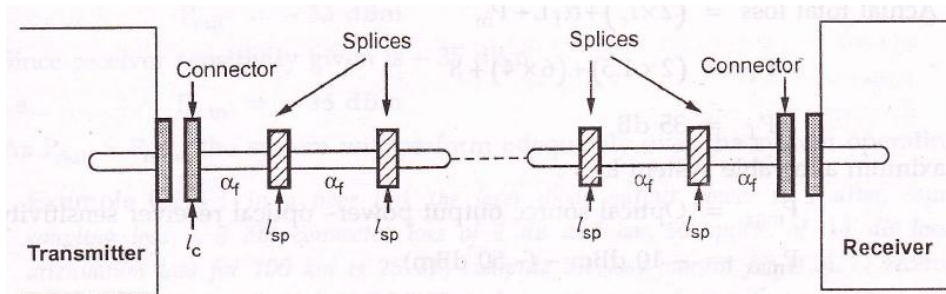

Fig. 6.2.3 Optical power loss model
- For optimizing link power budget an optical power loss model is to be studied as shown in Fig. 6.2.3. Let  $l_c$  denotes the losses occur at connector.